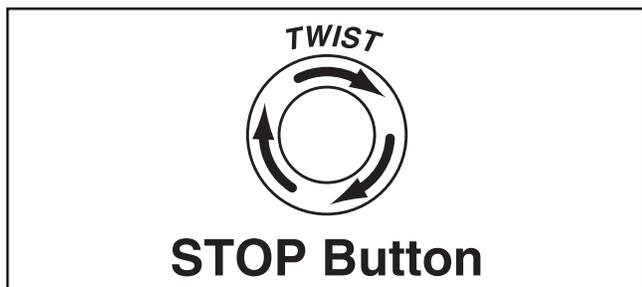

Figure 37. Resetting the switch.
4. Twist STOP button clockwise until it pops out (see **Figure 37**). This resets switch so machine will start.